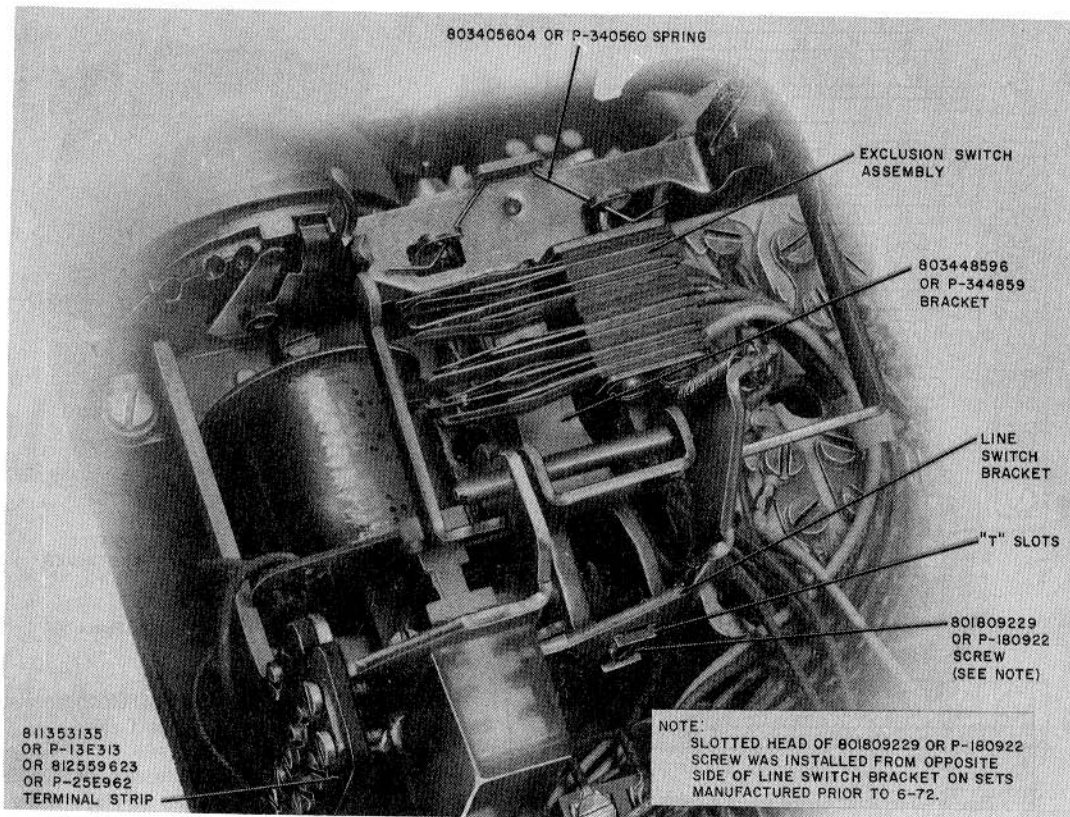

Fig. 6—D-179935 Exclusion Kit, Installed
- (1) Insert the 803448596 (P-344859) bracket into the two T slots precut in the line switch bracket (Fig. 6).
- (2) Tighten the 801809229 (P-180922) screw which holds the bracket in the T slots.
- (3) Mount the exclusion switch assembly on the bracket (Fig. 6) and fasten in place using the 803405604 (P-340560) spring.
- (4) Remove the 811359538 (P-13F953) plunger from the left side of the telephone set housing and replace it with the 811416130 (P-14A613) exclusion plunger.
2.27 These auxiliary terminal strips are attached to the line switch bracket as shown in Fig. 6.